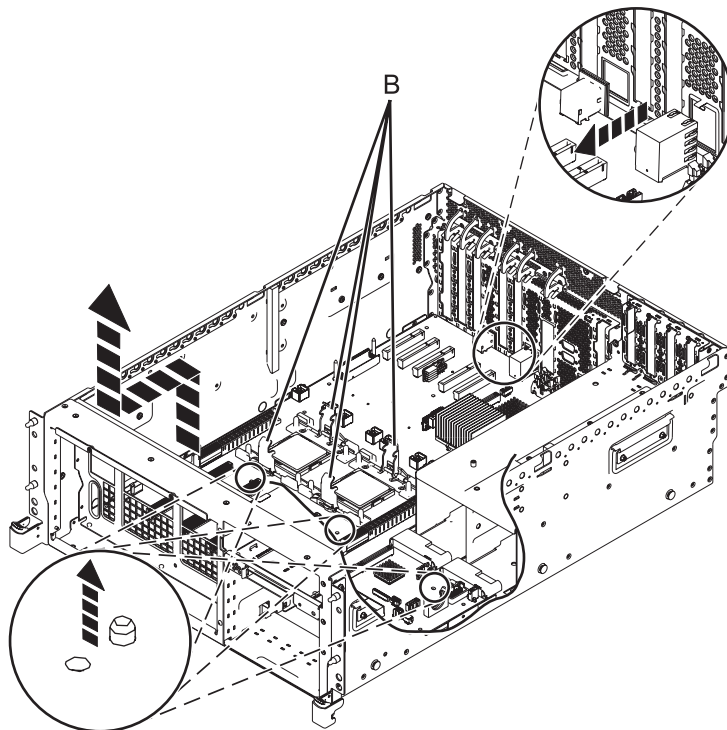

Figure 40. Removing the system backplane
c. Grip the system backplane by both heat sink load arms (**B**). See Figure 40.